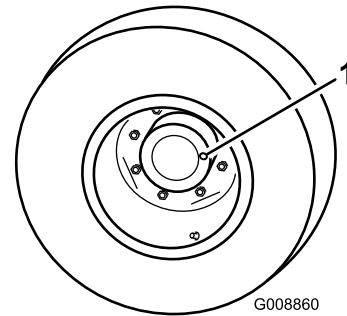

Figure 13
1. With the machine on a level surface, position the wheel so that the check/drain plug (Figure 13) is at either the 3 or 9 o'clock position.